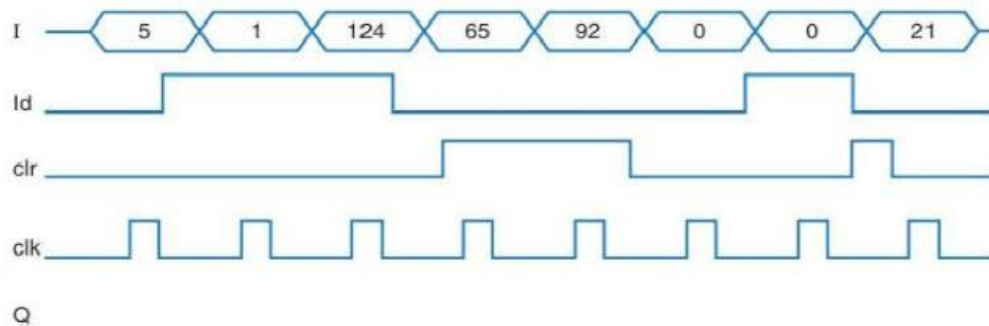

Figure 4.96 Timing diagram.
- 4.2 Trace the behavior of an 8-bit parallel-load register with 8-bit input I , 8-bit output Q , load control input ld , and synchronous clear input clr by completing the timing diagram in Figure 4.96.